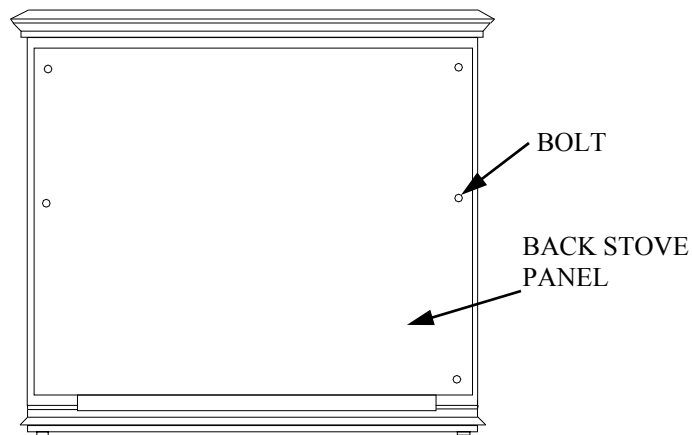

FIGURE 6 - REMOVING BACK PANEL
4. Remove back panel from stove (see Figure 6). Use an adjustable wrench or a 10 mm socket. Remove six (6) bolts and washers. Keep bolts and washers to attach rear cover.